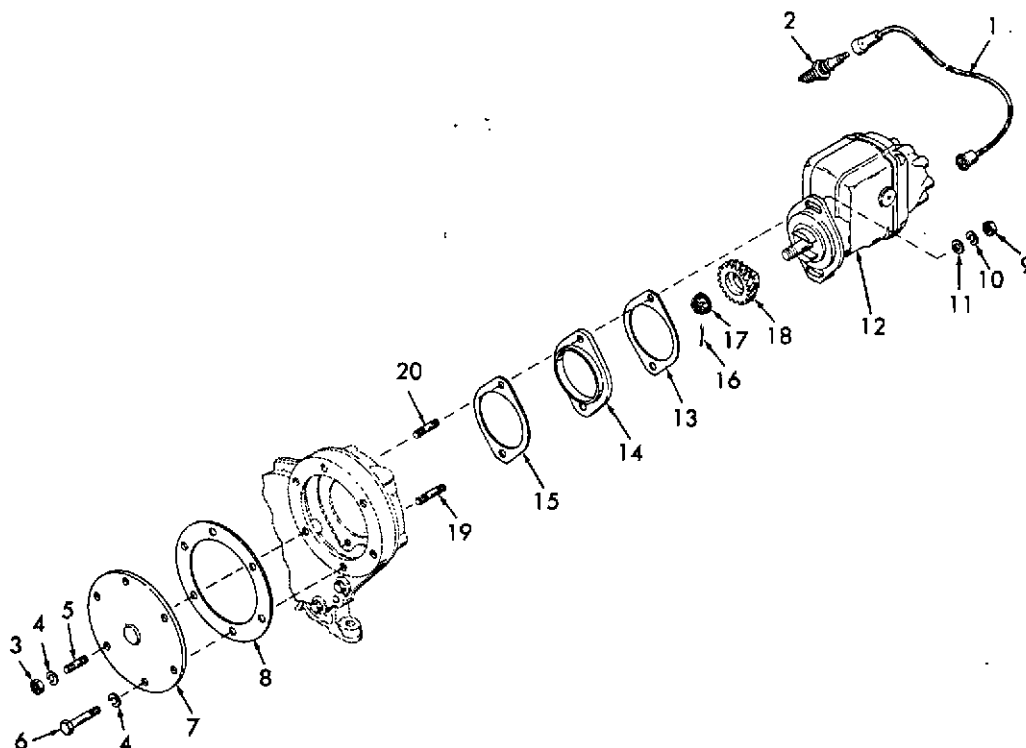
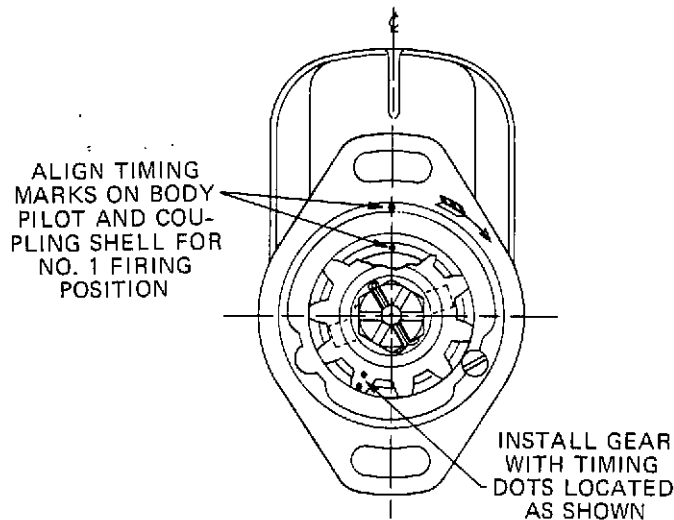

Figure 5-17. Magneto Ignition System, Exploded View
Figure 5-18. Magneto Gear Installation
2. Remove the nuts (3, figure 5-17), cap screws (6), and lock washers (4) which secure the cover (7) to the gear housing cover. Remove the cover and gasket (8).
4. Remove the nuts (9), lock washers (10), and flat washers (11) which secure the magneto (12) to the gear housing. Pull the magneto straight back, and remove the gasket (13), adapter (14), and gasket (15).
5. If the magneto gear (18) is worn or damaged, remove the cotter pin (16) which retains the nut (17). Unscrew and remove the nut while holding the gear, and pull off the gear from the magneto shaft.
1. Rotate the coupling shell to align the timing marks on the coupling shell and magneto body pilot, as shown in figure 5-18. Install the magneto gear (18, figure 5-17) with the timing dots on the gear positioned as shown. Secure the gear with the nut (17), and retain the nut with a cotter pin (16).
4. Install the adapter (14, figure 5-17) and gaskets (13 and 15) on the gear housing.
6. Secure the magneto and adapter to the gear housing with two nuts (9), lock washers (10) and flat washers (11). Do not overtighten the nuts.
7. Position the cover (7) and gasket (8) on the gear cover, and secure the cover (7) with nuts (3), cap screws (6), and lock washers (4).